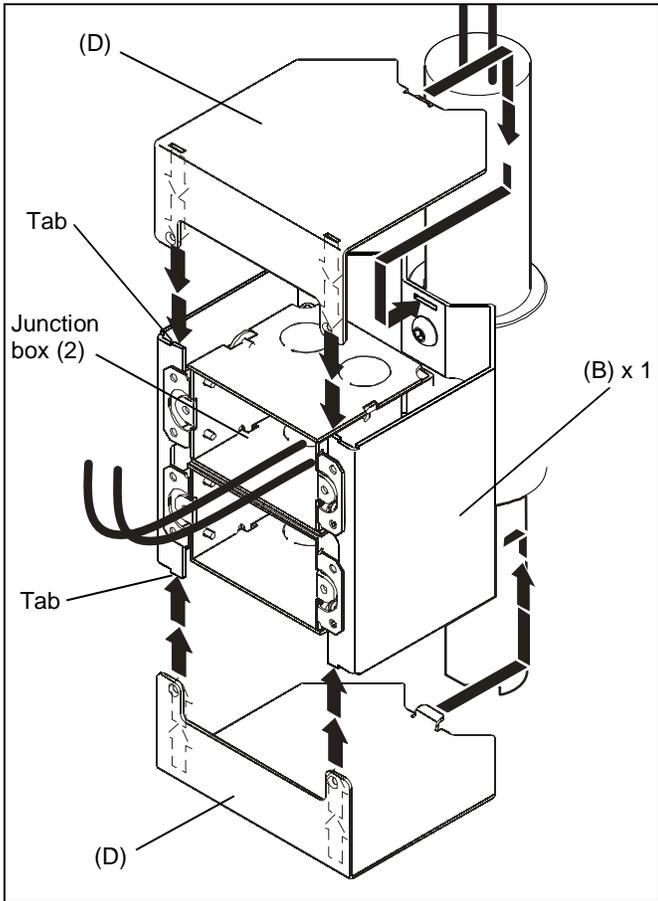

Figure 5
7. Install top and bottom cover (D) to mounting plate making sure mounting tabs on mounting plate slide into slots in covers and mounting holes in mounting tabs on covers align with mounting holes in junction boxes. (See Figure 5)